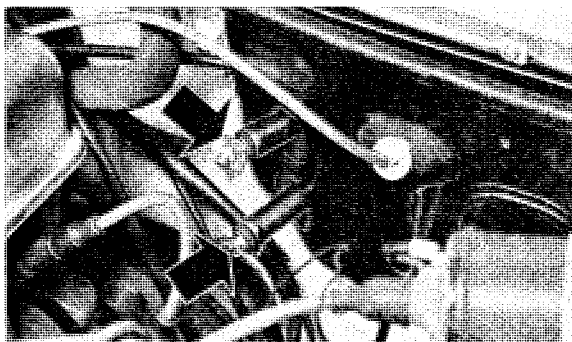

Fig. 8-76. Fitting plugs in heater system connection pipe
3. Remove the heater system's water hoses from the joint pipes in the fire wall, and plug the pipes (Fig. 8-76).